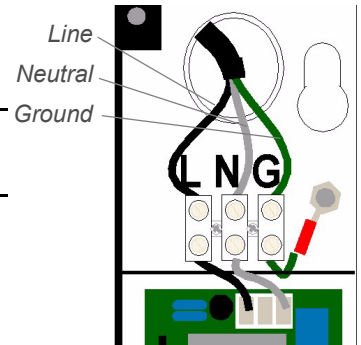

FIGURE 5:Power Connections
- 4 Install wires into the AC terminal block as shown in **Figure 5**, tighten the screws to 5 - 7 in-lbs., and replace power supply cover.